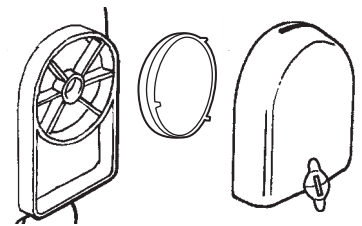

Figure 27
- Remove the air cleaner element. See Figure 27. Clean or replace as necessary. To clean element: Wash it thoroughly in soap and water. Let it dry before reinstalling the element.